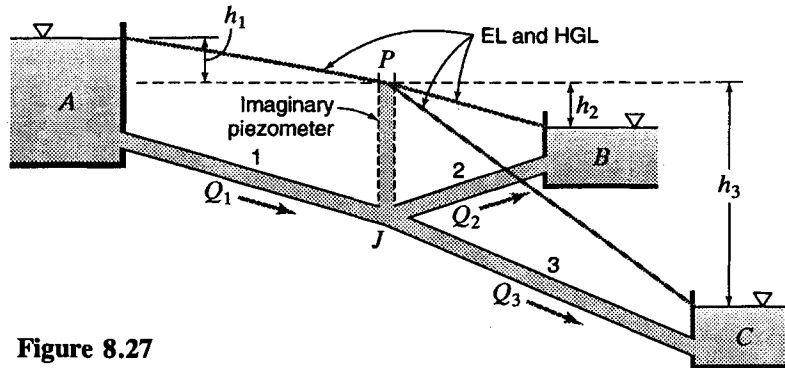

Figure 8.27
8.85 In Fig. 8.27, suppose that pipe 1 is 900-mm smooth concrete, 1500 m long; pipe 2 is 600-mm cast iron, 900 m long; and pipe 3 is 500-mm cast iron, 400 m long. The surface elevations of reservoirs A and C are 60 and 38 m, respectively, and the discharge through pipe 2 is 0.3 m³/s of water into reservoir B. The water temperature is 15°C. Using a basic scientific calculator only, find the surface elevation of reservoir B.